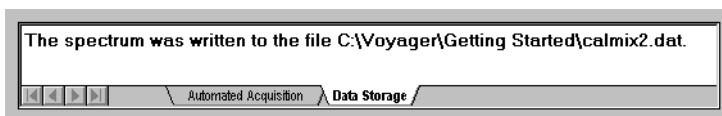

Figure 4-13 Data Storage Tab in Output Window
2. Click  in the toolbar or select **Save Spectrum** from the Acquisition menu. The data is saved using the file name specified in the Data Storage control page. Information about the data file is displayed in the Data Storage tab in the Output window at the bottom of the Instrument Control Panel (Figure 4-13).